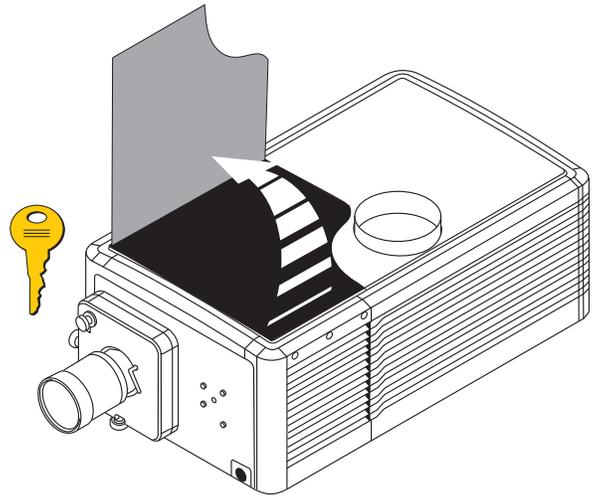

FIGURE 1-1 REMOVE FRONT LID
2. Raise the lid and slide it out from the opposite side. (Figure 1-1)